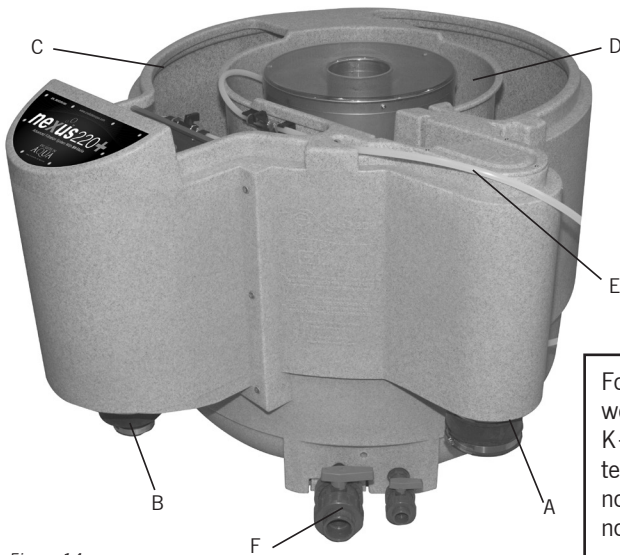

Figure 14.
1. Connect the pipework from your pond to the EazyConnector on the Nexus Inlet (A).
2. Connect your water pump to the 4" - 1½" EazyConnector (B) on the outlet using suitable pipe work. A valve should be positioned between the pump and the Nexus, to isolate the Nexus during cleaning.
3. Pour the 50L K+Media bag into the outside chamber (C) of the Nexus (Figure 14).
4. Connect your air pump to the Nexus air inlet (E).
6. Connect the waste valves (F) to your waste outlet.